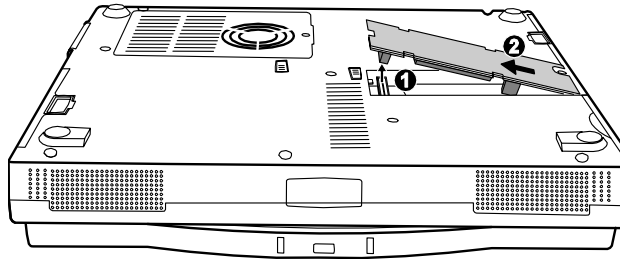

FIGURE 7-17. REMOVING THE FAX/MODEM/VOICE CARD
1. HOLD THE FAX/MODEM/VOICE CARD AT AN ANGLE SO THAT THE PHONE LINE CONNECTOR IS POINTED TOWARDS THE OPENING ON THE NOTEBOOK. INSERT THE PHONE LINE CONNECTOR INTO THE OPENING AND PRESS THE OTHER END TO PLUG THE OTHER CONNECTOR INTO THE SOCKET ON THE SYSTEM BOARD. (REFER TO FIGURE 7-17 EARLIER).